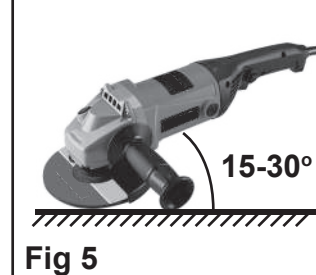

Fig 5
- TO USE GRINDER** (see fig 5)